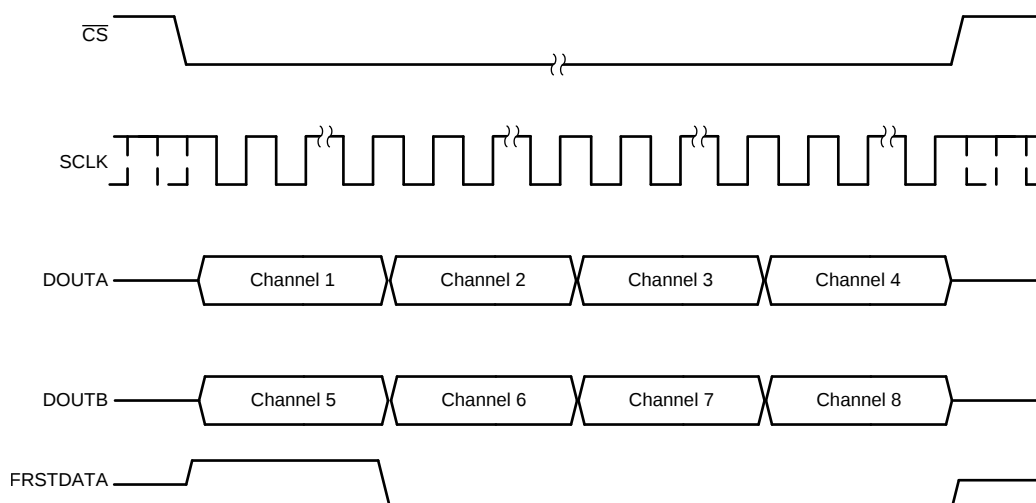

图 70. Data Read Back in the Serial Interface Using Both DOUTA and DOUTB Timing Diagram
- In order to minimize the time for the data read operation in serial mode, both DOUTA and DOUTB can be used to read data out of the device. In this case, the conversion results from the first set of channels (channels 1-4) appear on DOUTA and the conversion results from the second set of channels (channels 5-8) appear first on DOUTB. To read the data for all channels, provide a total of $16 \times 4 = 64$ SCLK cycles. This entire data frame can be created within a single $\overline{CS}$ pulse or each group of 16 SCLK cycles can be individually framed by the $\overline{CS}$ signal. 图 70 shows an example timing diagram.